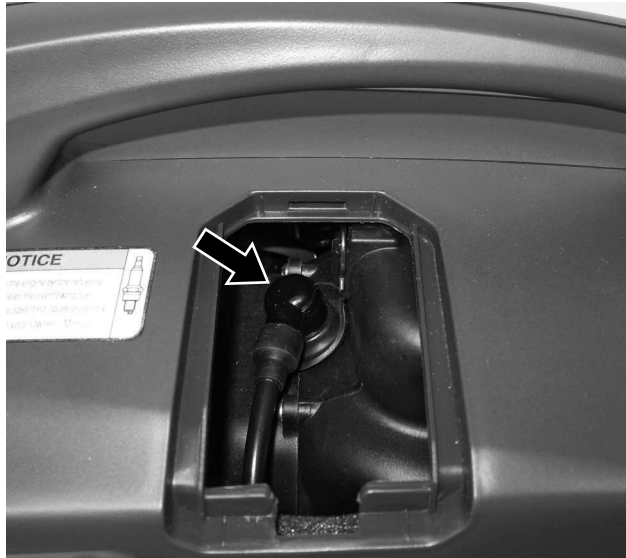

Figure 49 – Removal of Spark Plug Boot
4. Remove the spark plug boot by firmly pulling the plastic spark plug boot handle directly away from the engine (see Figure 49).